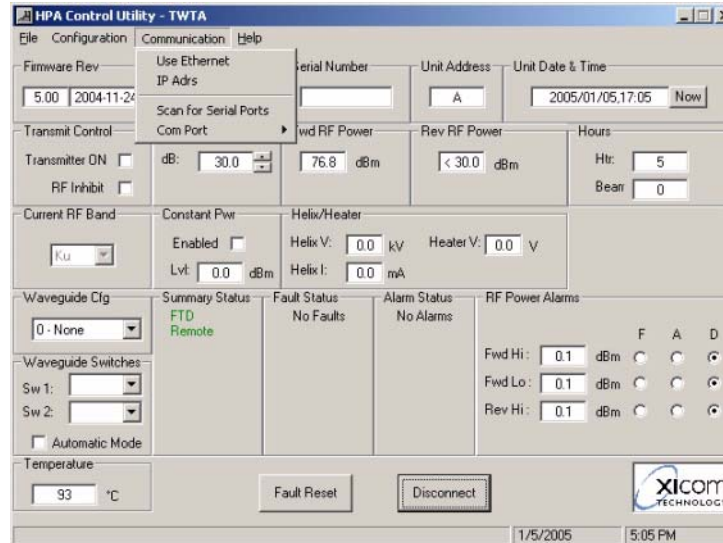

Figure 12, Communications Menu
11. Refer to Figure 12 on page 13. The communications menu allows you to Use Ethernet for M&C operation. If this option is selected, all M&C operations are done solely over the Ethernet connection; RS232 and RS485 modes are not used.
13. The “Scan for Serial Ports” option (Figure 12) allows you to scan the M&C PC for available RS232 communication ports.